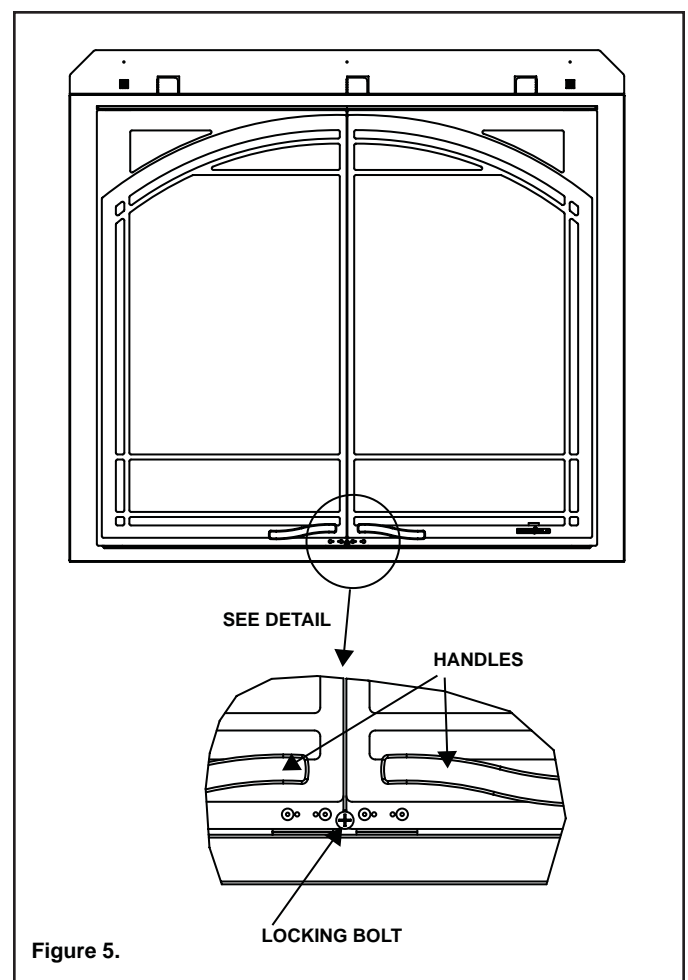

Figure 5.
13. To lock the doors shut, insert the black 10-24 phillips head bolt through the small notches by the handles. Tighten the bolt into the threaded insert mounted between the spring clips on the lower hinge bracket (see Figure 5).